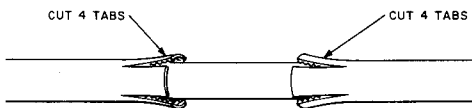

Fig. 5—Tab Cuts
- (3) After repairs have been made, tab each end of the sheath opening, cutting through polyethylene and metal layers, removing any slivers of metal, taking care not to damage the core (Fig. 5).
- (4) Wrap the core. Wrap the pulp or paper insulation with two half-lapped layers of B paper